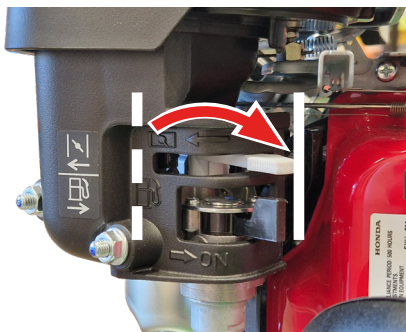

Fig. 9H - Move choke lever into open position.
9. Gradually move the choke lever into the *open* position (towards the front) (Fig. 9H). Leave to warm up for 3-5 minutes while gradually moving the throttle to the tortoise position.